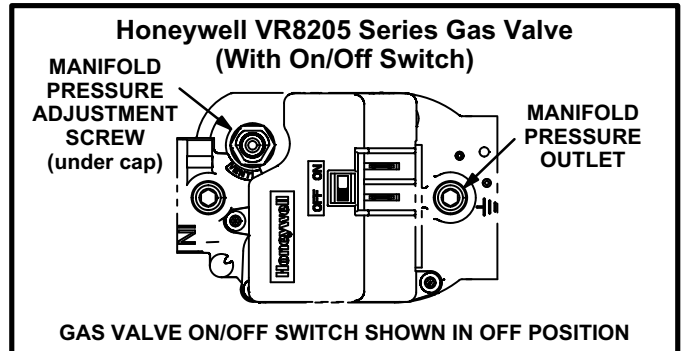

FIGURE 27
Gas Valve Operation (Figures 27, 28 and 29)
- 6 - *Honeywell VR8205 Gas Valve with ON/OFF Switch* - Move gas valve switch to **OFF**. See figure 27.
- 8 - *Honeywell VR8205 Gas Valve with ON/OFF Switch* - Move gas valve switch to **ON**. See figure 27.
- 4 - *Honeywell VR8205 Gas Valve with ON/OFF Switch* - Move gas valve switch to **OFF**. See figure 27.
- 2 - After the line pressure has been checked and adjusted, check the manifold pressure. A natural gas to LP/propane gas changeover kit is required to convert the unit. Manifold pressure for all units fueled by natural gas at all altitudes is 3.5" w.c. Manifold pressure for all units fueled by L.P./propane gas at all altitudes is 10.0" w.c. See figures 27, 28 and 29 for the location of the manifold pressure adjustment screws.